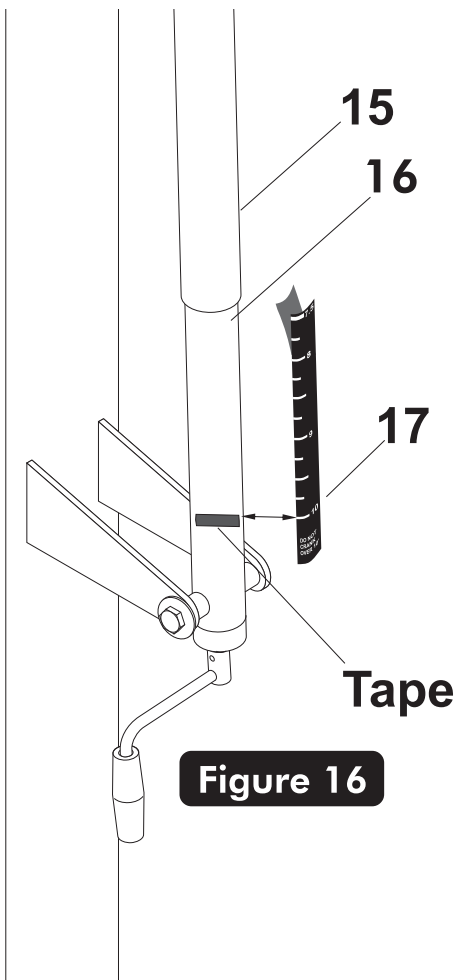

Figure 16
23. Remove the adhesive backing from the Height Decal (#17). Next, carefully align and stick decal to backside of steel actuator (#16) starting at the **10 ft mark first**. Be sure to keep the height decal straight and rub out all air bubbles. See **Figure 16**.